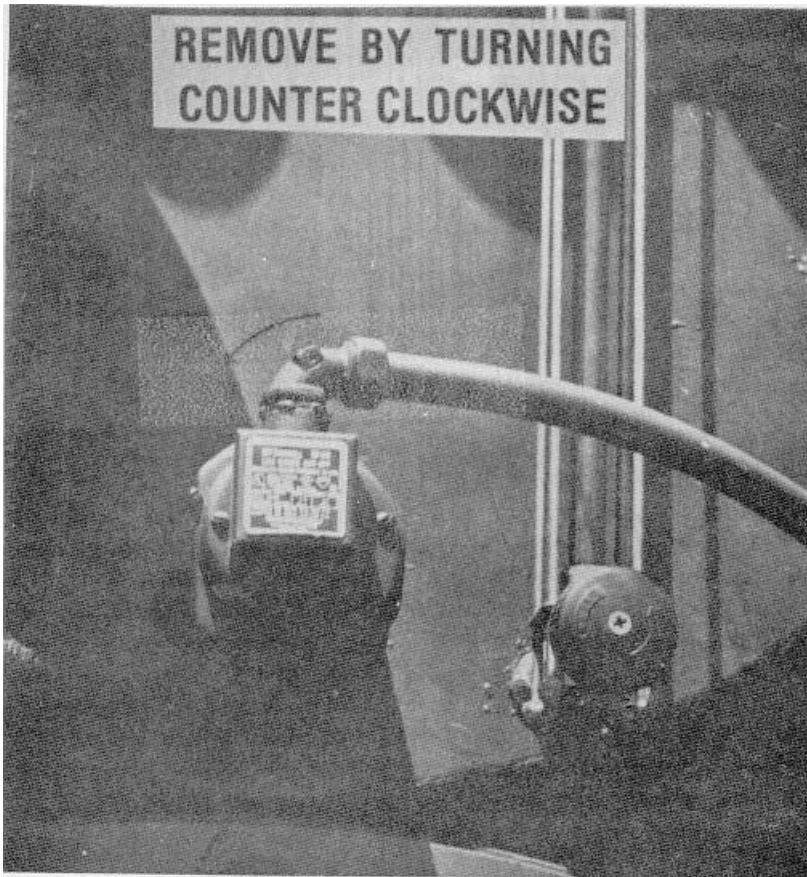

Figure 35. LOW LEVEL CONTROL MOUNTING.
- a. Removal. Refer to Fig. 35 & 36 and remove the low fluid level cutoff.
- c. Installation. Refer to Fig. 35 and install the low fluid level cutoff in reverse order of removal.